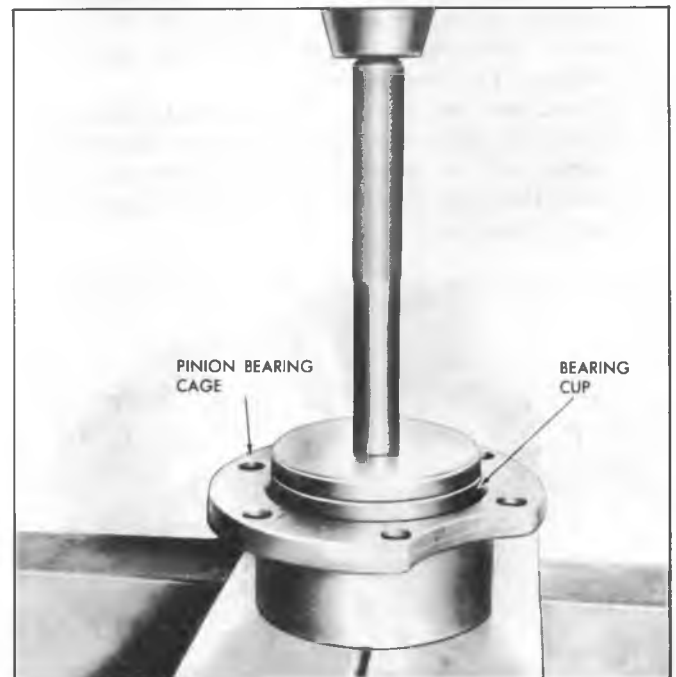

Fig. 22M—Installing Pinion Gage Bearing Cup with Tool J-8479
1. Use Tool J-8479 to install bearing cups in cage as shown in Figure 22M.